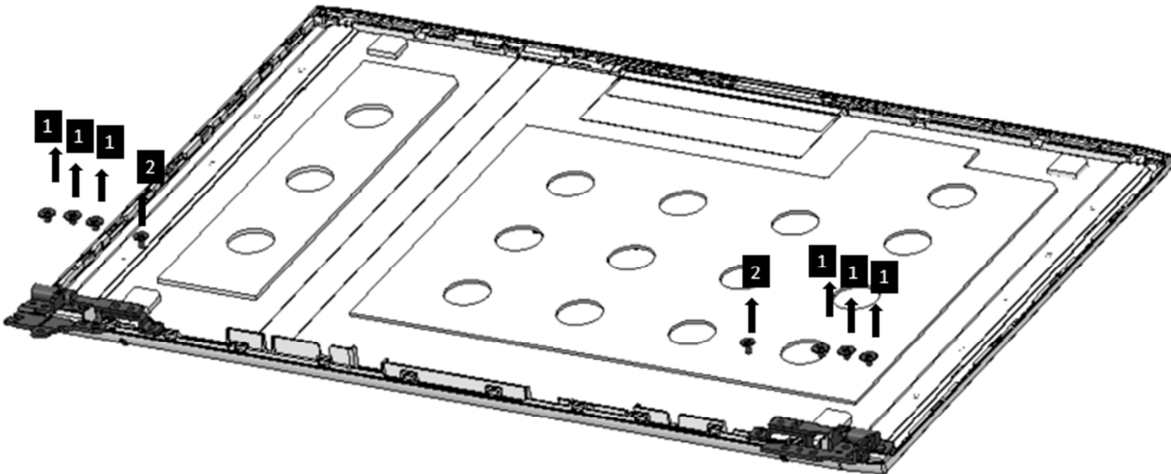

Figure 4-29 Removing LCD Hinges
Remove the LCD hinges according to the following procedures and Figure 4-29.
1. Seat and adhere the Hinges in the correct position on the LCD cover assembly as shown in Figure 4-29 (Tighten the six M2×2.5 screws).
2. Seat and adhere the antennas in the correct position on the LCD cover assembly as shown in Figure 4-29 (. (Tighten the two M2×3.0 screws)